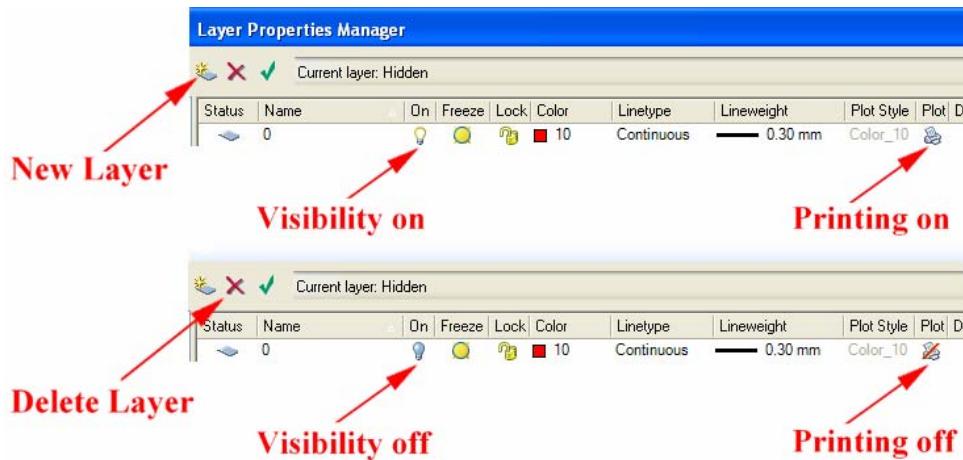
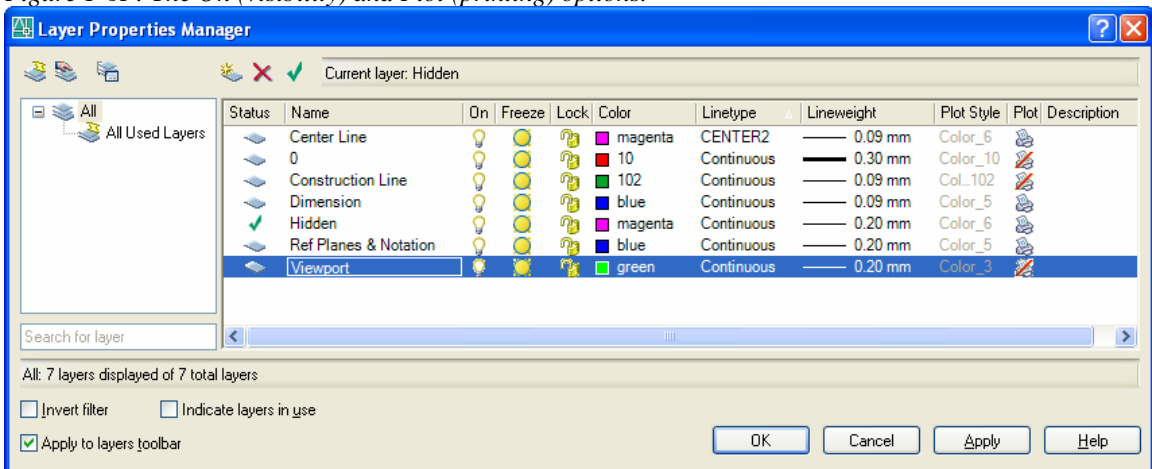

Figure 1-6F: The On (visibility) and Plot (printing) options.
Figure 1-6G: The Layers created for the subsequent modules.
- **On button:** A bright yellowish light bulb symbol is by default displayed under the **On** option name, indicating that the objects to be created on the layer will be visible; to make the objects invisible, click the bright yellowish light bulb symbol; it turns to a grayish bulb, indicating that the objects to be created on the layer will be invisible (*Figure 1-6F*).
- **Plot** button: A printer symbol is by default displayed under the **Plot** option name, indicating that the objects to be created on the layer will be printed; to make the objects not printable (but still visible on the layer unless the **On** button is turned off), click the printer symbol; a red forward slash/ is placed on the printer symbol (in the previous version of AutoCAD, a red stop sign Ø was used), indicating that the objects to be created on the layer will not be printed (Figure 1-6F).
To create a new layer, click the **New Layer** button (*Figure 1-6F*); a new layer appears in the list with the name highlighted, type a new name and perform desired changes of properties (Notice that the name of the first layer that is created by default will stay **0** and cannot be changed). To delete a layer, select the layer first and then click the **Delete Layer** button, with a red **x** symbol, as shown in *Figure 1-6F* (Notice that the first layer that is created by default, or the layer **0**, cannot be deleted). It is recommended to create several **layers** with properties as shown in *Figure 1-6G*. Notice that the **Layer 0** will be used to create visible (“object”) lines (especially the **cut lines** in development patterns) throughout the subsequent learning modules. When all layers are created with desired properties, click the **OK** button to exit the **Layer Properties Manager** window.